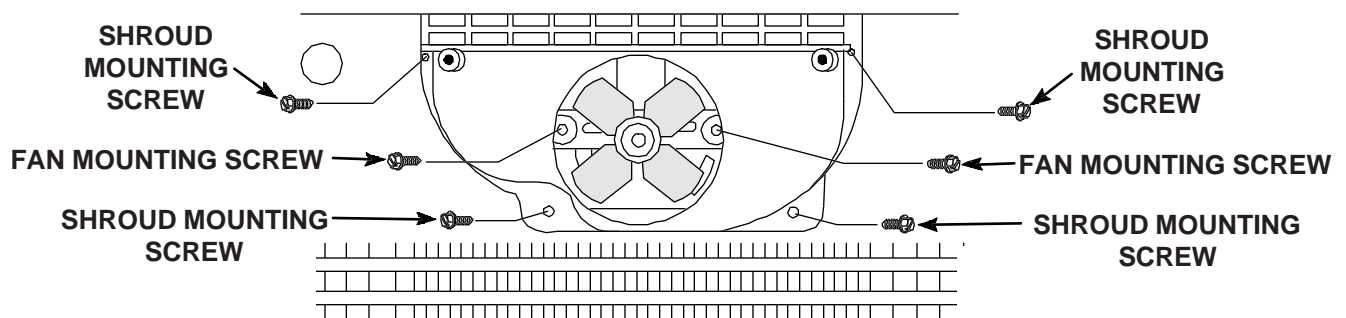

Fig. 31
2. Remove the four (4) screws securing the fan shroud to the back wall of the freezer section and lift the shroud off. (Fig. 31)
3. Remove the two (2) screws securing the fan motor mounting bracket to the back wall of the freezer section and lift the fan motor assembly from its location. (Fig. 31)